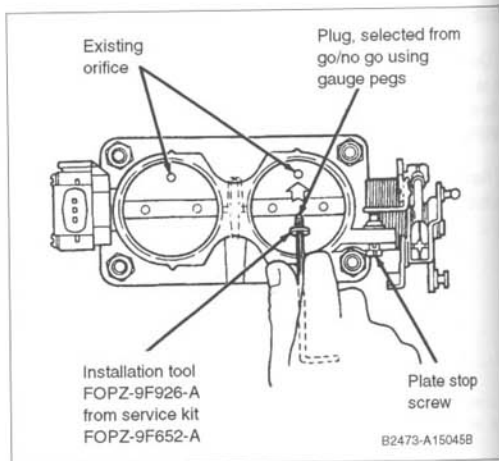

Fig. 5-3. If necessary, install plug in throttle plate orifice (Dual throttle plates shown.) Notice plate stop-screw.
- Block off orifice in throttle plate. See Fig. 5-3.